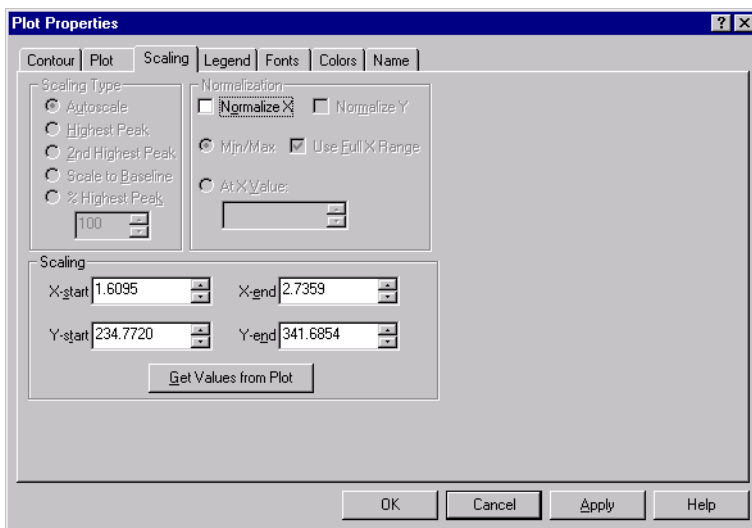

Figure 2-10 Scaling Tab
2. Click the **Scaling** tab, then click **Get Values from Plot** to fill in values from the plot in the Scaling section of the tab (Figure 2-10). Alternatively, enter the X-start, X-end, Y-start, and Y-end values manually.